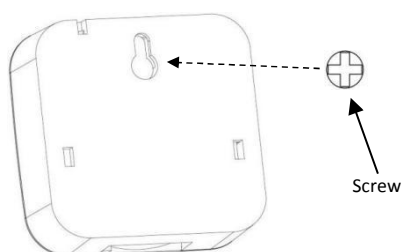

Fig.2
- For Mini Rcontact RF: Fixed the screw on the wall, put the Mini Rcontact RF on the screw by round hole. (Fig.2)